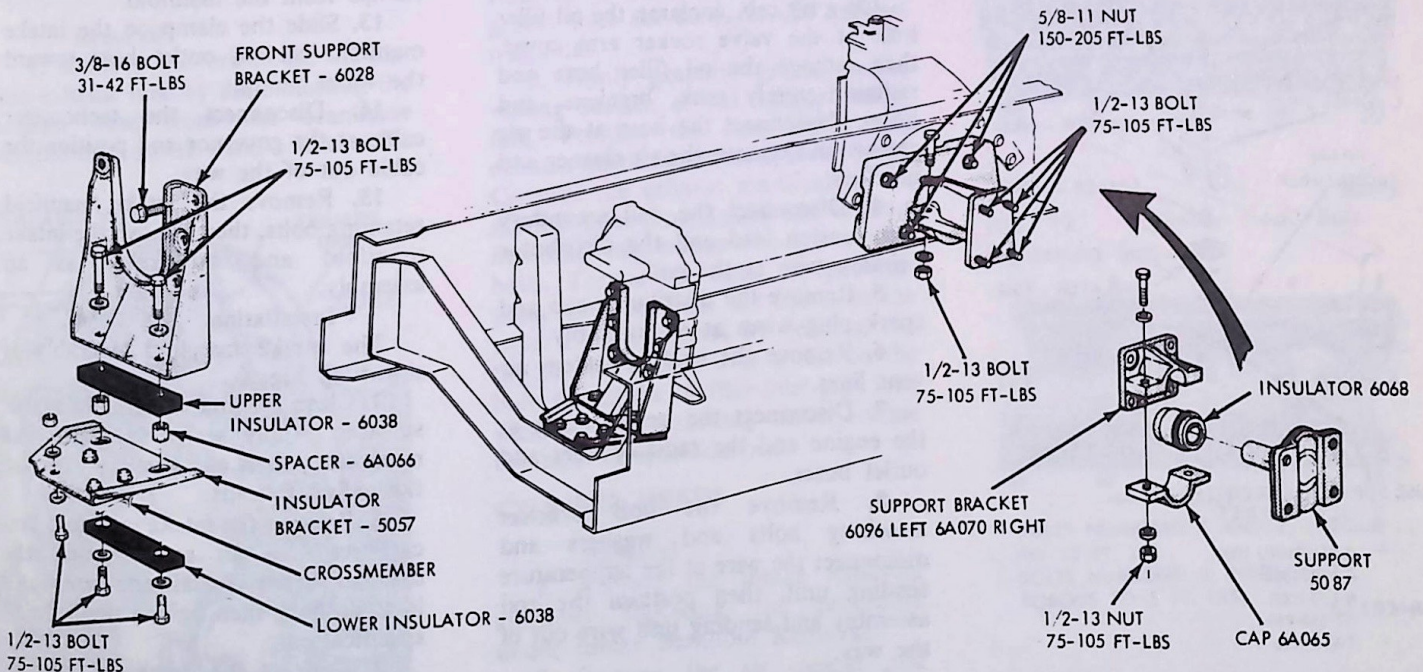

FIG. 5 Engine Front and Rear Supports—L, LT, LTS, LN and LNT-Series
The engine is supported at the front (Figs. 5 and 6) and on each side
at the rear of the crankcase (Figs. 5 and 7).
1. Remove the two upper insulator attaching bolts (Fig. 5).
2. Position a new upper insulator on the support bracket (Fig. 5).
1. Position a new insulator on the engine rear support (Fig. 5). Position